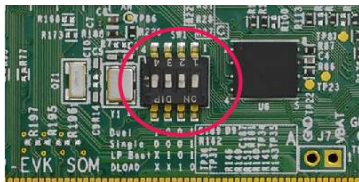

Figure 2. SW1 setting for internal boot mode
- Change SW1 on the SOM board (700-29163) to ON, OFF, OFF, ON (from bits 4-1) to boot from the MicroSD card, as shown in Figure 2. After the board images are programmed and the boot switches are correctly configured, the system is ready to run.